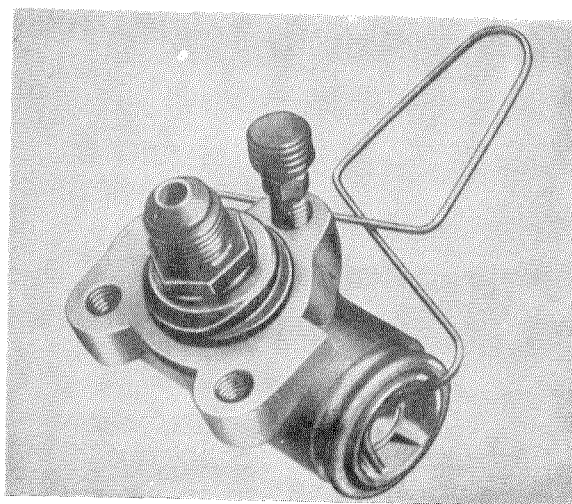

Fig. 42 — 7/3
15. Insert a new cup (4) and a piston (3) in the bore of the brake wheel cylinder (see Fig. 42 — 7/2). Press on a rubber boot (2) at this side.
16. Now install a cup expander (5) and the stop spring (6) from the other side into the brake wheel cylinder in such a way that the cup expander rests snugly against the cup.
Note: In order to prevent the pistons and the cups from falling out after reassembly, it is advisable to put a Piston Clamp 00 589 02 37 on the brake wheel cylinder (Fig. 42 — 7/3).